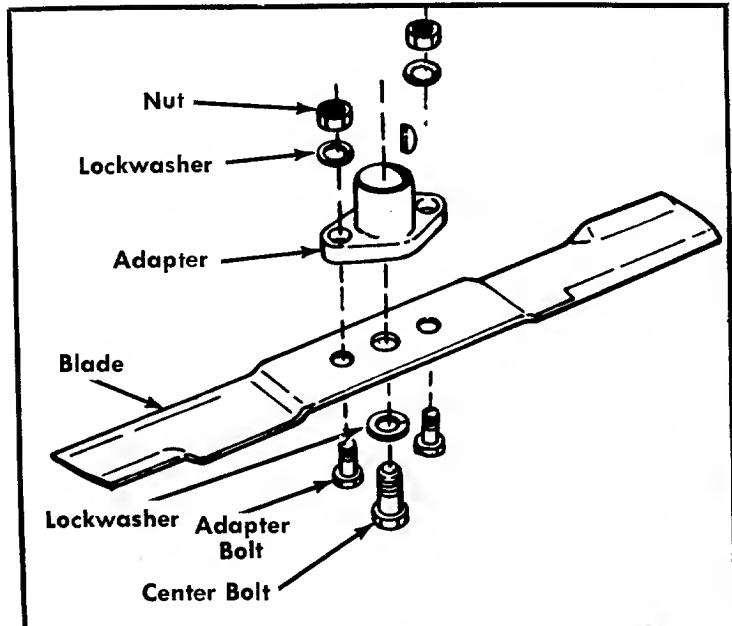

FIGURE 17. BLADE REMOVAL
Step 2. Remove the blade by removing the hex head cap screw in the center of the blade. Hold the blade with one hand and using a  $\frac{1}{2}$ " open end, box or adjustable wrench, remove the bolt. See figure 17.
Step 2. Remove the blade by removing the hex head cap screw in the center of the blade. Hold the blade with one hand and using a  $\frac{1}{2}$ " open end, box or adjustable wrench, remove the nut. See figure 17.
Step 5. Lubricate all lubrication points indicated in figure 17; then wipe the entire machine with an oiled rag in order to protect the surfaces.